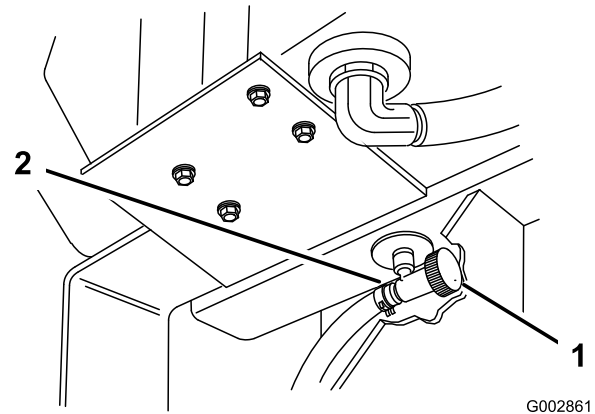

Figure 26
2. Close the fuel shut-off valve at the fuel tank (Figure 26).
2. Close fuel shut-off valve at the fuel tank (Figure 26).
- Open fuel shut-off valve at fuel tank (Figure 26).